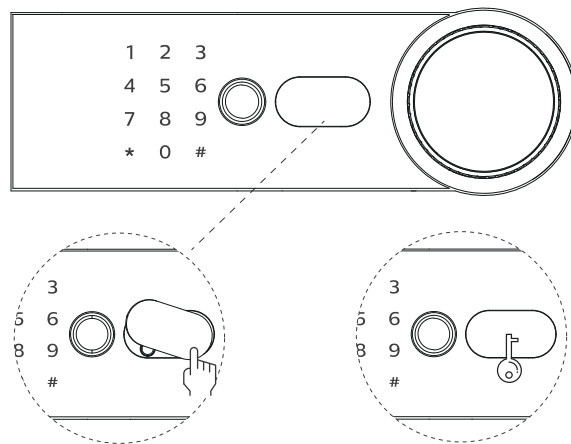

Figure 5
1. As shown in Figure 5, press the right end of the keyhole cover, and the left side of the cover will jump up. Take off cover, find keyhole and open the safe with mechanical key.